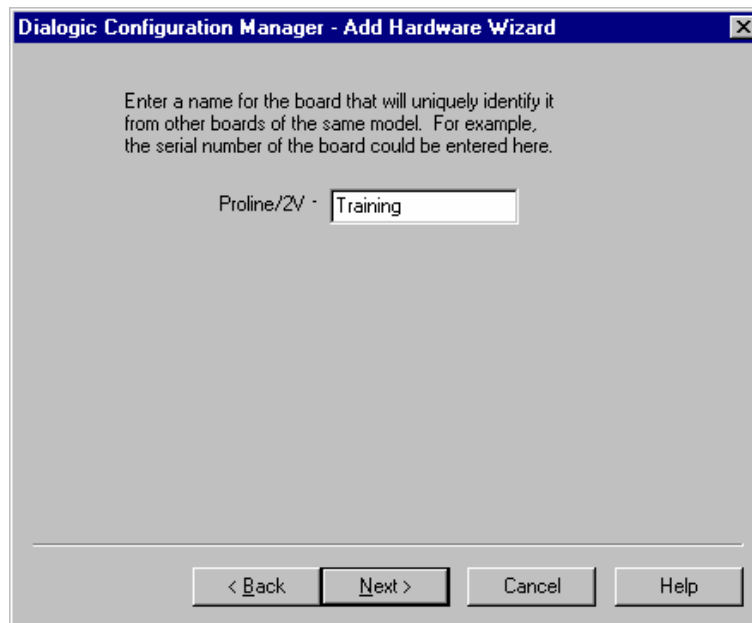

Figure B.14. Add Hardware Wizard: Naming the Board
4. Enter a unique name for the board, as shown in **Figure B.14**. Click the **Next** button to continue.